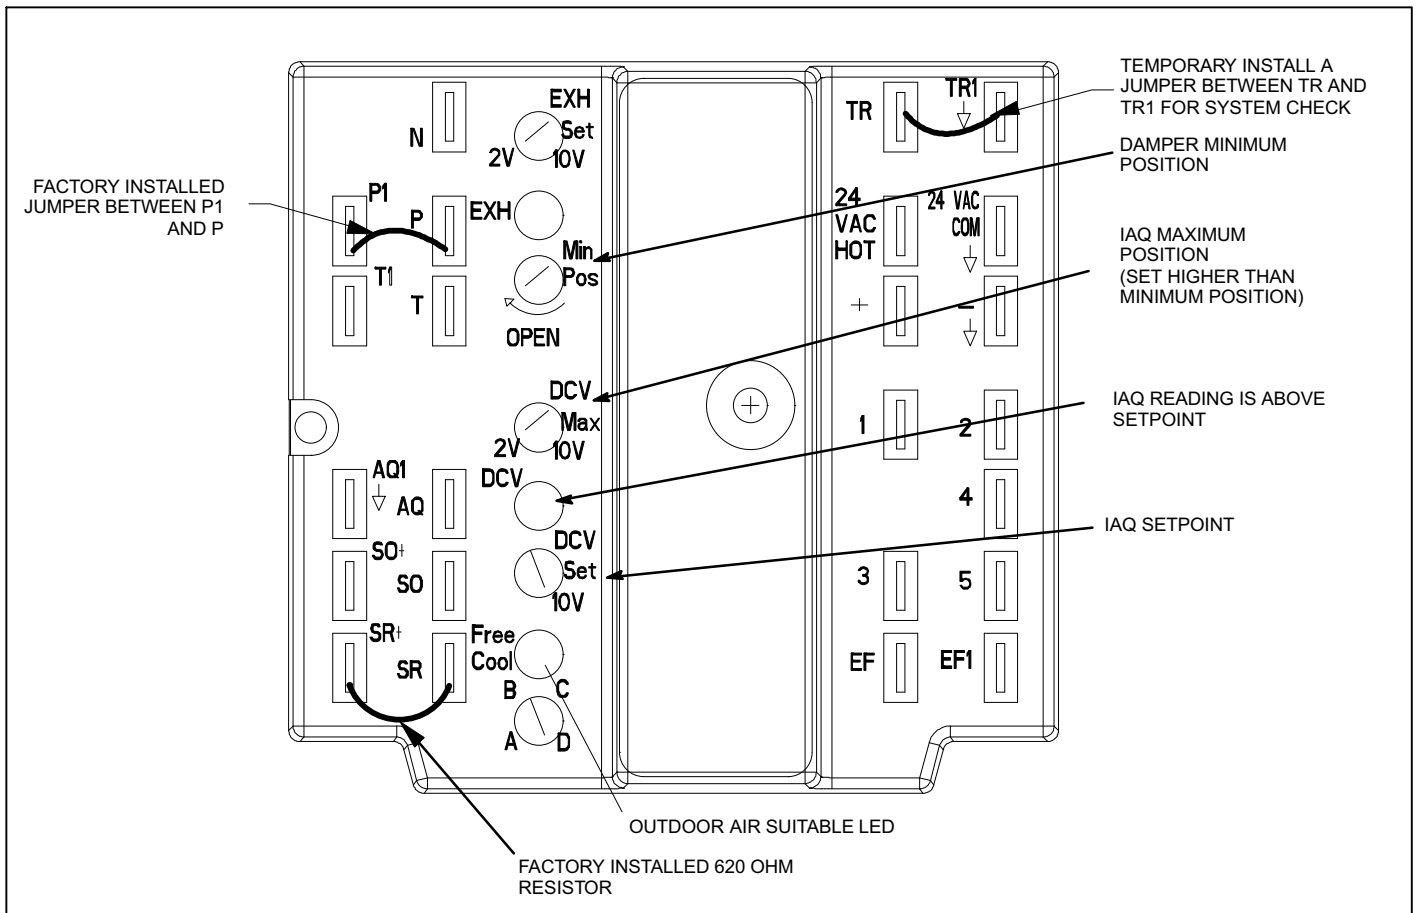

Figure 7. A6 Enthalpy Control
A steady green Free Cool LED indicates that outdoor air is suitable for free cooling. A steady green DCV LED indicates that the IAQ reading is higher than setpoint requiring more fresh air. See figure 7.
1000ppm. Adjust the **DCV SET** potentiometer to the approximate setting specified by the controls contractor. Refer to figure 7.
The **DCV MAX** potentiometer is factory-set at approximately 50% of the potentiometer range or 6VDC. Dampers will open approximately half way when CO₂ rises above setpoint. Adjust the **DCV MAX** potentiometer to the approximate setting specified by the controls contractor. Refer to figure 7.
5. Install jumper on damper motor terminal TR and TR1 (figure 7).